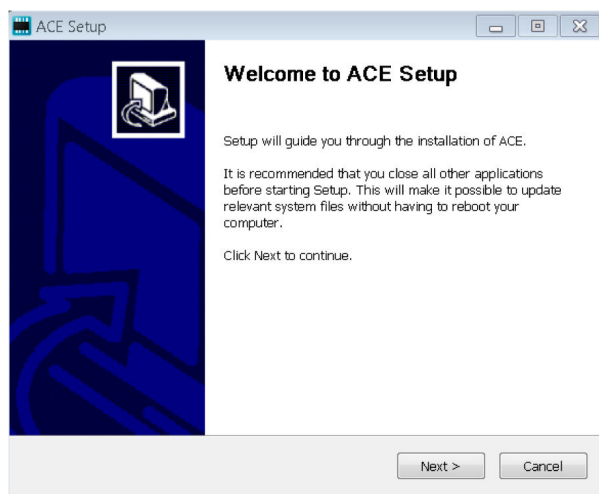

Figure 4. Evaluation Software Installation—Install Confirmation
4. In the **ACE Setup** window, click **Next >** to continue the Installation (see Figure 4).